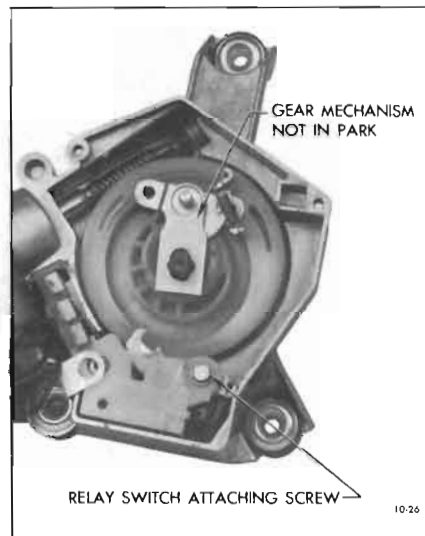

Figure 10-26—Removing Relay Switch Assembly
If wiper gear mechanism is away from park position (drive pawl away from latch arm (Figure 10-26), proceed to Step 3.
5. Install relay-switch mounting screw. See Figure 10-26.